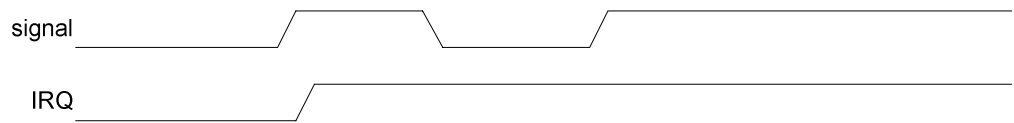
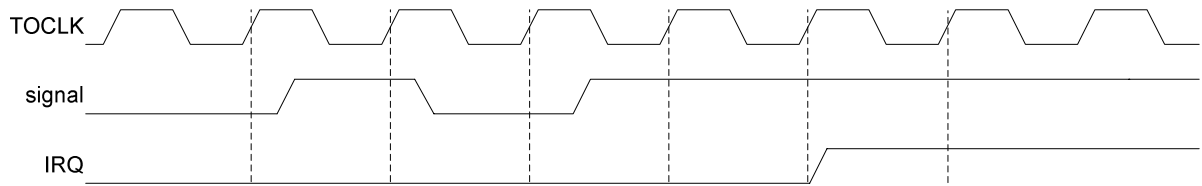
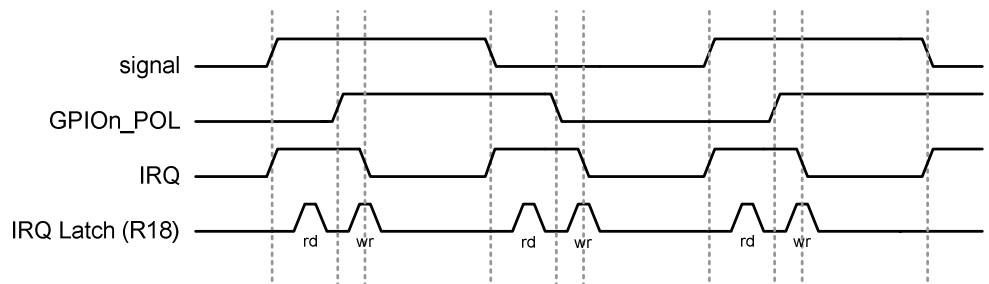

Figure 50 GPIO Latch
Figure 51 GPIO De-bounce
Figure 52 GPIO Edge Detect
Three typical scenarios are presented in the following Figure 50, Figure 51 and Figure 52. The examples are:
- Latch a GPIO input (Figure 50)
- Debounce and latch a GPIO input (Figure 51)
- Use the GPIO_n_POL bit to implement an IRQ edge detect function (Figure 52)